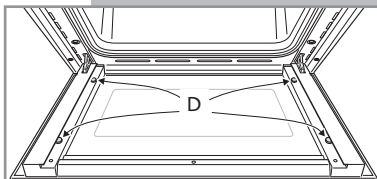

Fig. 22
- Check that the four rubber pads are in place (**D** in Fig. 22).